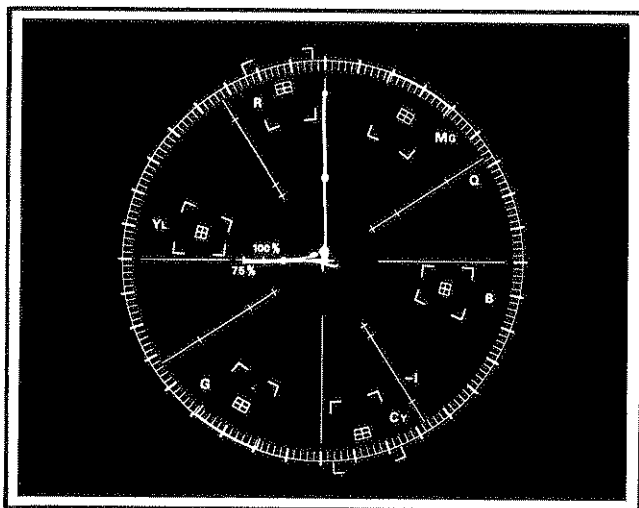

Fig. 2-12. Vector presentation of 180° and modulated 90° subcarriers.
13. Rotate the 146 APL/IRE LEVEL switch to 0, and set the MOD STAIRCASE  $90^\circ$  SUBCARRIER switch to MOD. The display should consist of a burst vector at  $180^\circ$ , a subcarrier vector at  $180^\circ$ , and three dots along the  $90^\circ$  axis corresponding to the modulated  $90^\circ$  subcarrier. See Fig. 2-12.